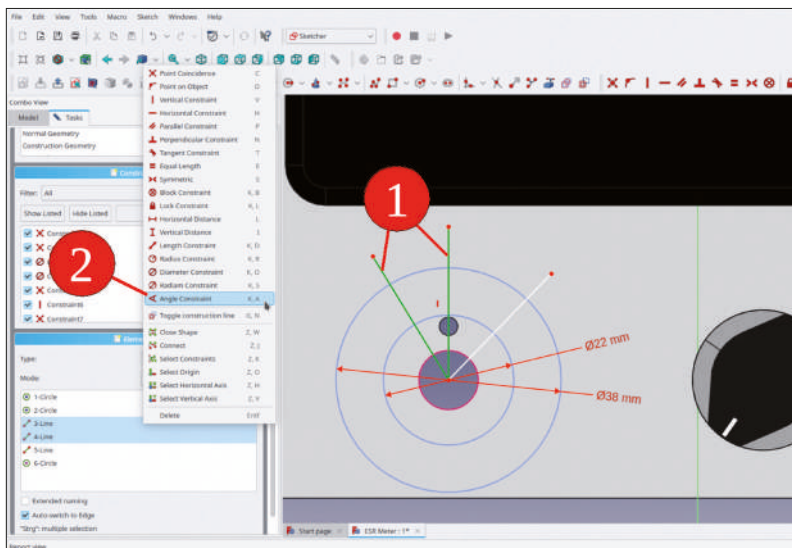

Figure 8-6
10. On the sketch, mark the vertical and one of the other lines. In the 'Elements' list, right-click the selection, and select 'Angle constraint' from the context menu. Set the angle to 30° (our switch has 12 positions). Repeat the procedure for the other line (Figure 8-6). Sometimes, the sketcher complains when you try to apply a constraint. In that case, it is likely that some other element was still selected from prior operations. To resolve this, click somewhere into the empty space, which deselects all elements, and start over.